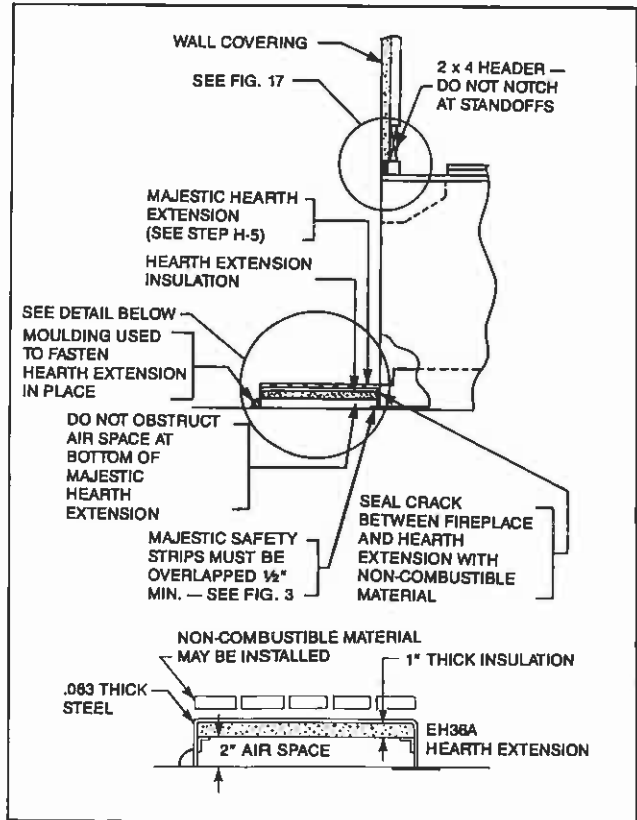

Fig. 22. Sealing detail.
Framing should be positioned to accommodate wall covering and fireplace facing material. (See Figs. 22 and 23 for typical arrangements.) Standoff nailing tabs provided on the top of the fireplace can be used to position the fireplace for a 5/8" finished wall covering, as well as anchor the fireplace. Nail through the tabs (4) into the horizontal framing members. (See Figs. 4 and 16.)
Secure the hearth extension to the floor to prevent shifting, using trim molding or other similar means at the three outer edges. Seal the crack between the fireplace hearth and the hearth extension with a non-combustible material. (See Figs. 22 and 23.)